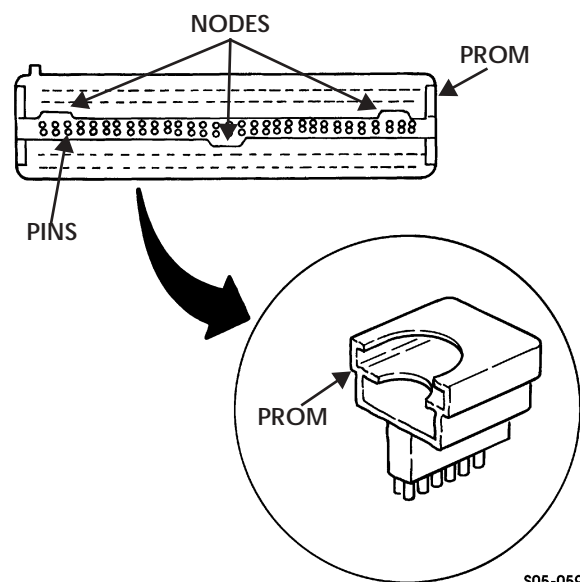
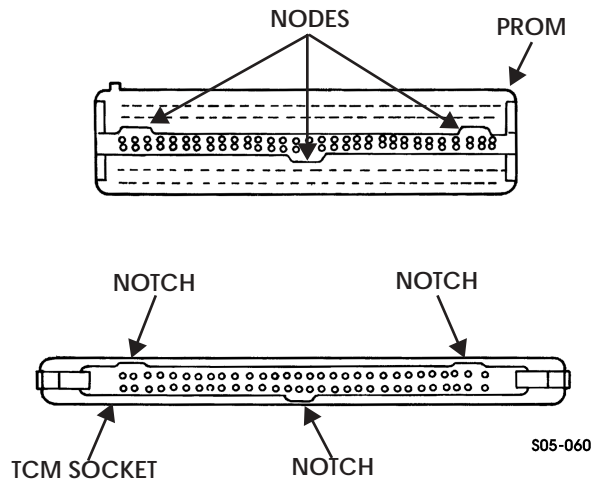

Figure 5-102: Alignment Nodes and Pins
Figure 5-103: Notches and Connectors
4. Inspect alignment nodes and pins of the PROM for damage or contaminants (Figure 5-102). Inspect socket notches and connectors for damage and contaminants (Figure 5-103). Remove any contaminants. Replace PROM if pins or nodes are bent, burred, or dented. Carefully set aside.
1. Align nodes of the PROM with mating notches on TCM socket (Figure 5-103).